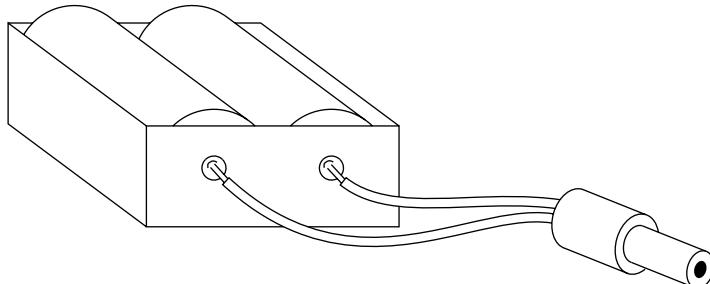

FIGURE 10-11: Battery compartment with power slug soldered on
3. Keeping in mind the polarity, solder the wires from the battery compartment to the power plug (see Figure 10-11).